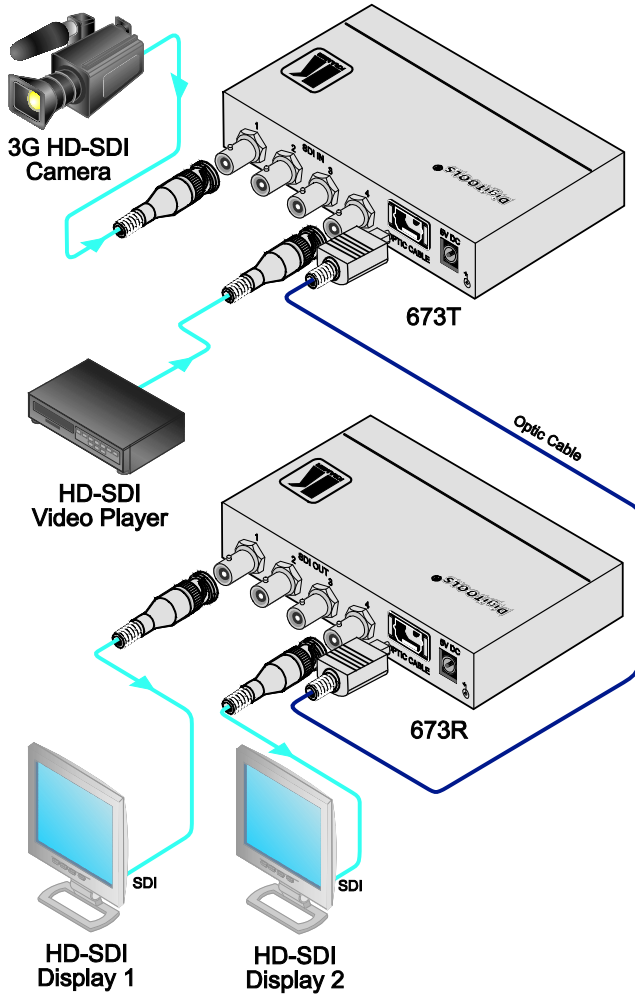

Figure 3: Connecting the 673T/673R Transmitter/Receiver System
| Figure 3: | Connecting the 673T/673R Transmitter/Receiver System | 7 |
To connect¹ the **673T** and **673R**, as illustrated in the example in Figure 3, do the following:
4. Connect the 5V DC power adapter to the power socket on each unit and connect the adapter to the mains electricity (not shown in Figure 3).